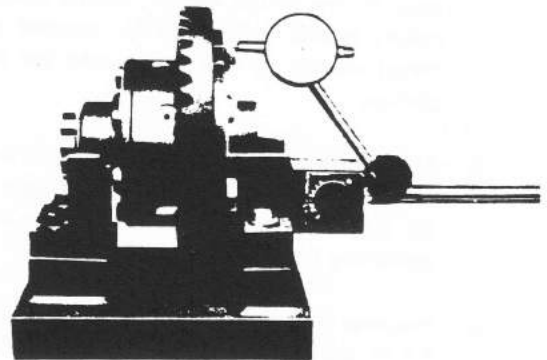

Fig. 25 Differential Spiral Gear Transverse Warp Measuring
with the stopper washers (A) (Fig. 25).